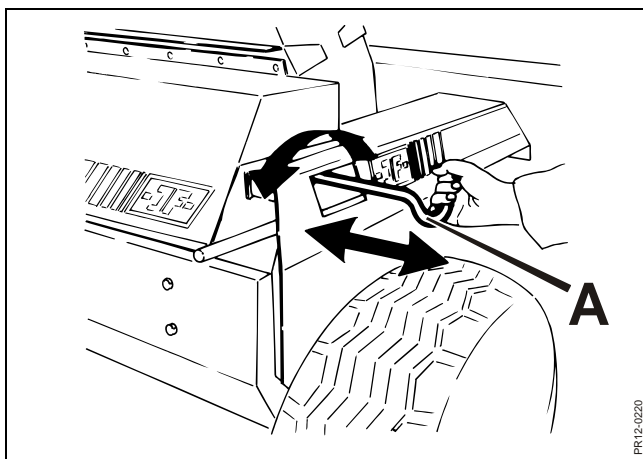

Fig. 4-13
- Fig. 4-13** 3. Adjust the grindstone so that there is 2-3 mm clearance between the stone and the blades by turning the handle A.